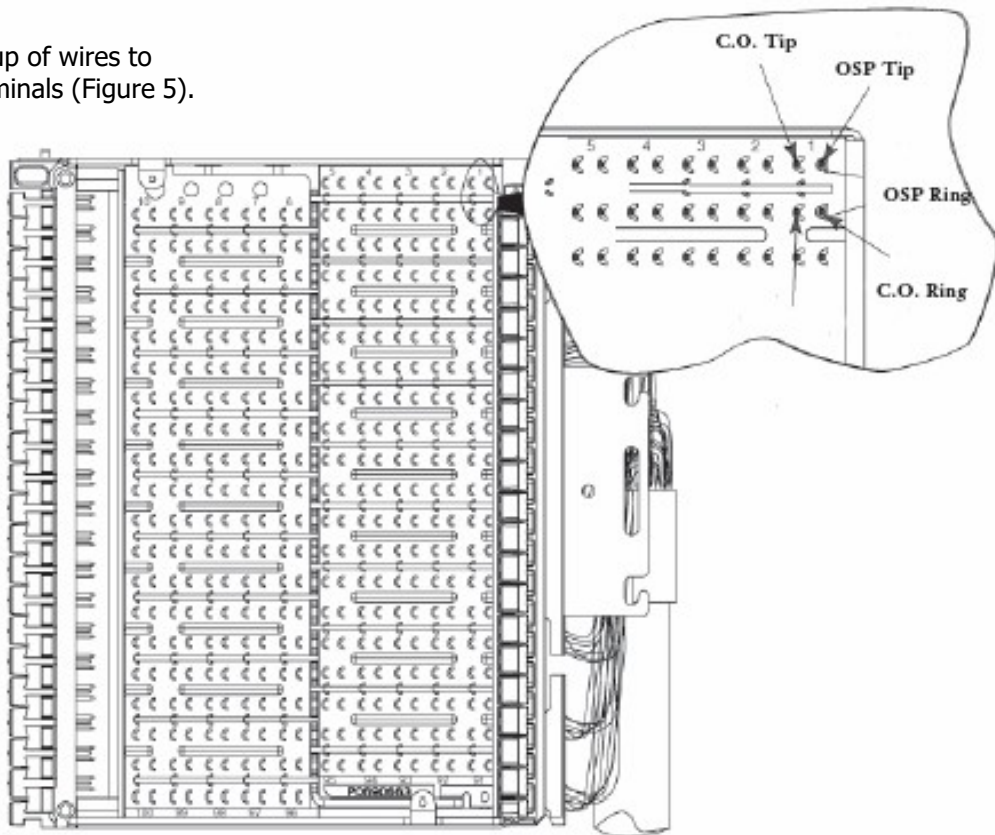

Figure 3
4.1 Remove back cover from C(G)-391 Connector (Figure 3).